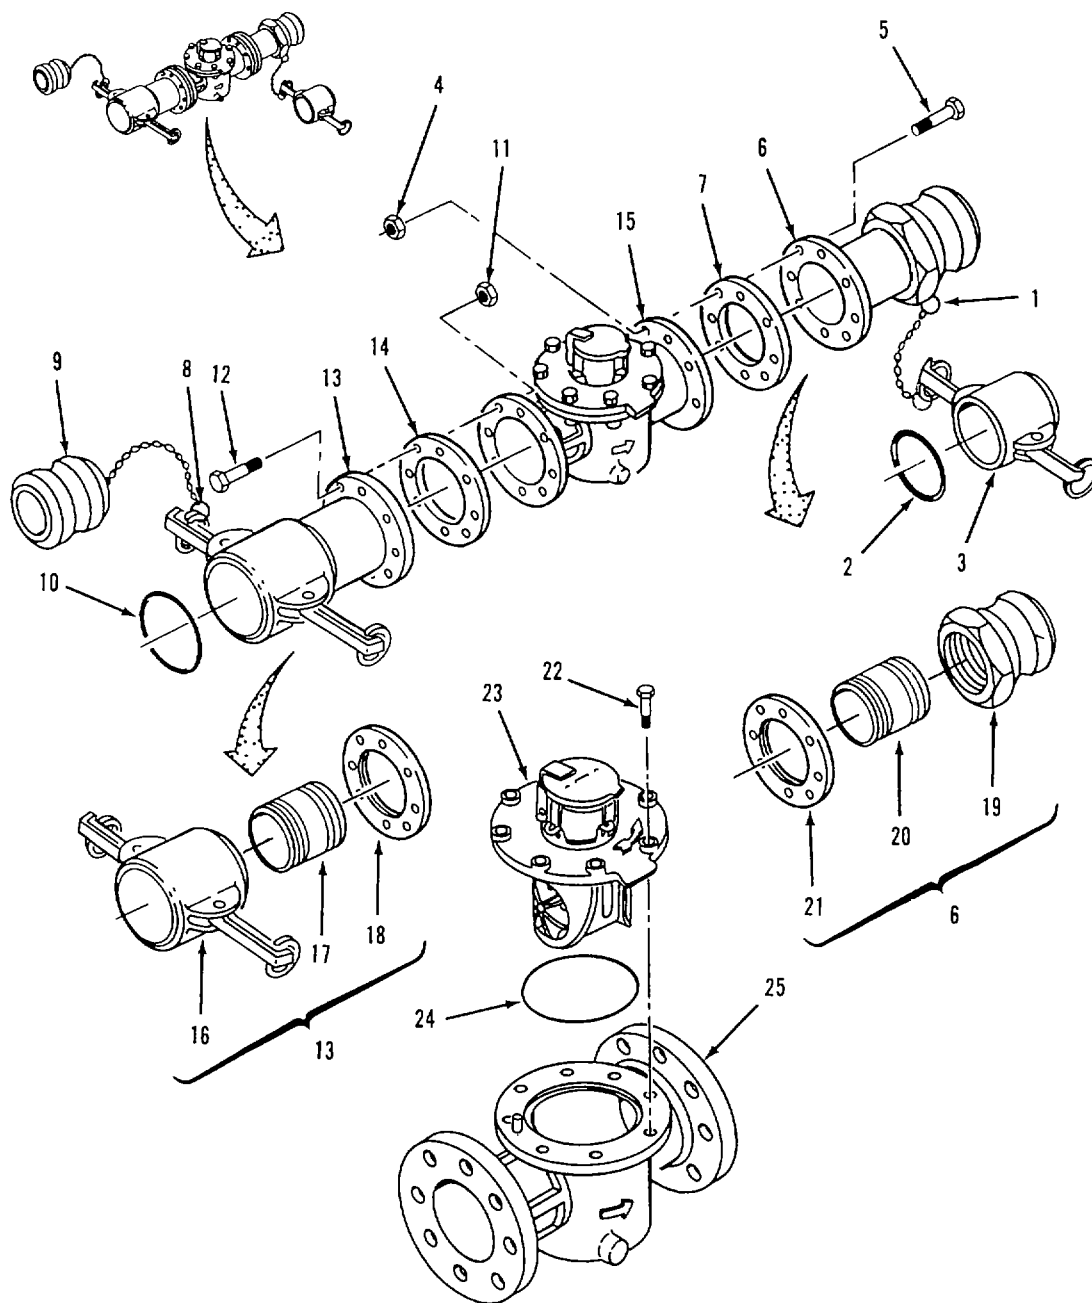

Figure 4-9. Water Meter Repair.
- a. Disassembly      Refer to figure 4-9.
- (1) Disconnect ring (1) from male coupling (9) and remove cap (3).
- (2) Remove gasket (2) from cap (3).
- (3) Remove eight self locking nuts (4) and screws (5).
- (4) Separate male coupling (6) and gasket (7) from meter (15).
- (5) Disconnect ring (8) from female coupling (13) and remove plug (9).
- (6) Remove gasket (10) from female coupling (13).
- (7) Remove eight self locking nuts (11) and screws (12).
- (8) Separate female coupling (13) and gasket (14) from meter (15).
- (9) If required, remove female coupling end (16) and nipple (17) from adapter (18).
- (10) If required, remove male coupling end (19) and nipple (20) from adapter (21).
- (1) Inspect female coupling end (16), male coupling end (19) and adapters (18 and 21) for cracks, stripped threads, and corrosion.
- (2) Inspect body (25) for cracks and corrosion.
- (3) Inspect metering element (23) for cracks, damage, and corrosion.
f. Assembly. Refer to figure 4-9.